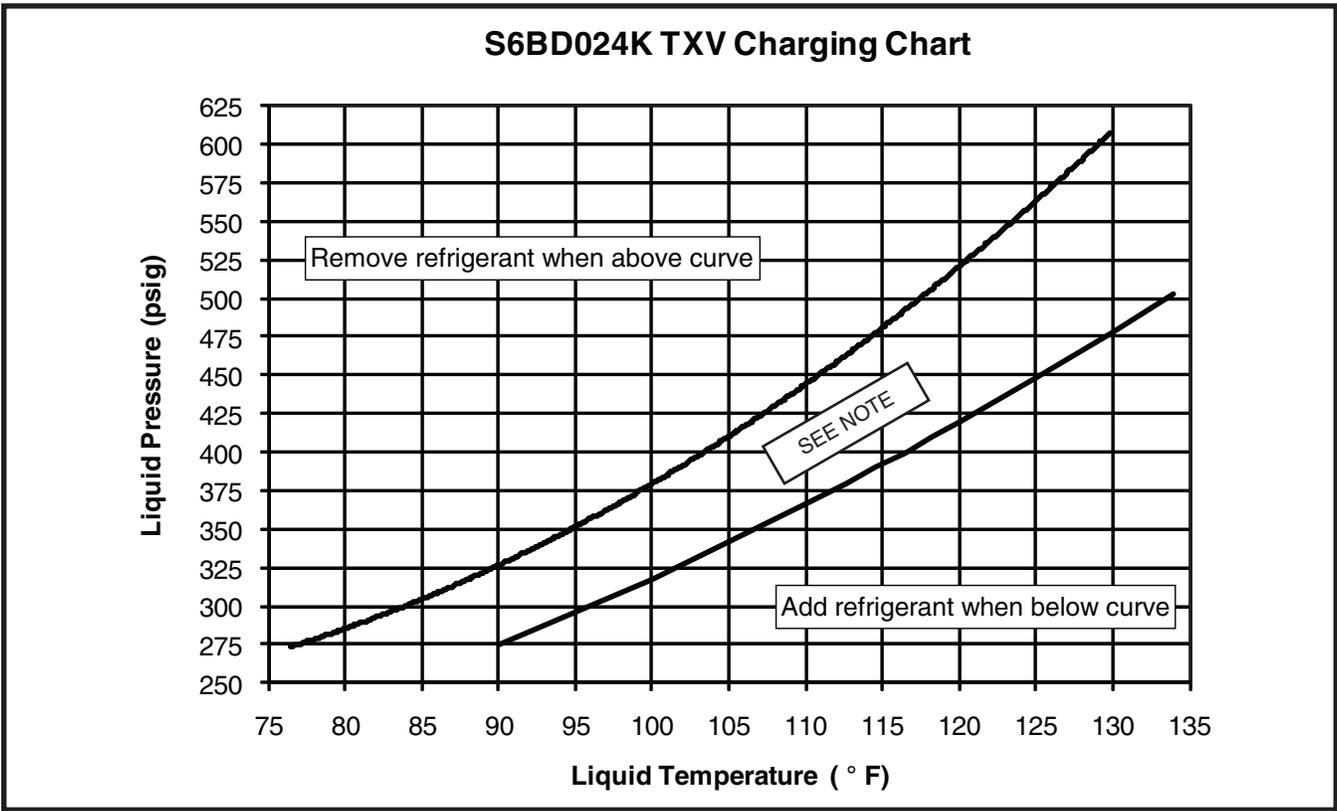

Figure 7. Charging Chart for 2 Ton Units
- Charging charts are valid for a variety of indoor, return air conditions and are most influenced by the outdoor ambient temperature, outdoor fan operation and the unit operating voltage. Before using these charts, ensure the unit is in a stable operating mode. As shown in the charging charts (Figures 7 - 12, page 16 - 18), the ideal system sub-cooling can vary over the range of operation. Reference the charts to determine the ideal amount of sub-cooling for a given liquid pressure. Units charged to other values will not perform at the rated unit efficiency (EER) or rated Coefficient of Performance (COP) in heating mode.